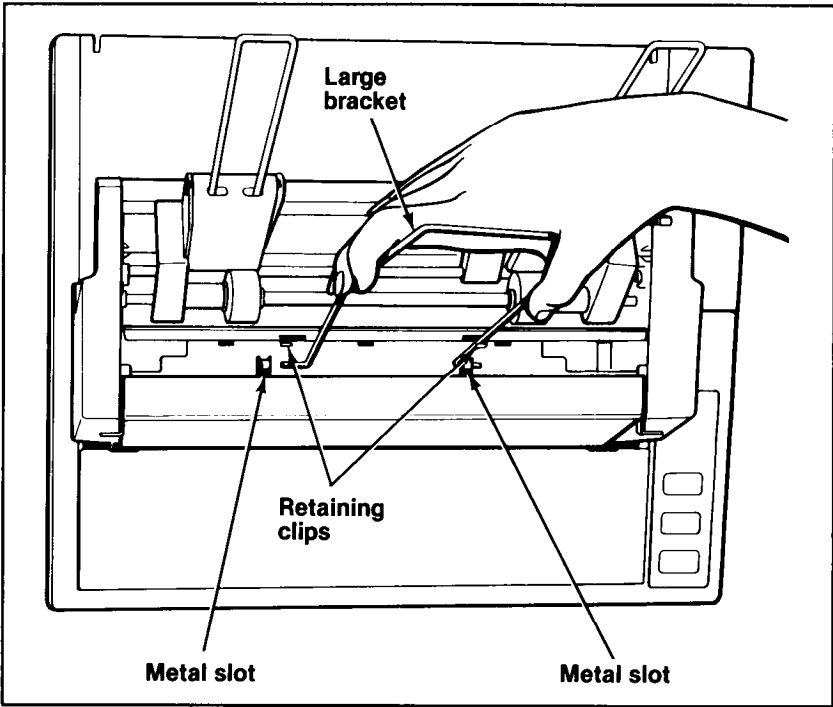

Figure 2-4. Installing the large bracket
11. For the LQ-800 model, install the large bracket in the stacker as shown in Figure 2-4. Slip the legs of the bracket into the metal slots on the bottom of the cut sheet feeder and make sure the bracket fits into the retaining clips on the upper part of the stacker.